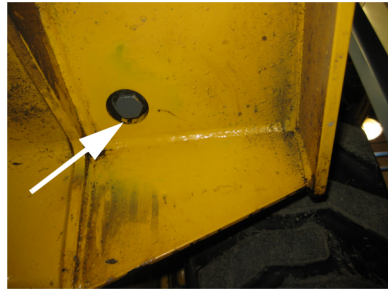

Figure 20 Hydraulic Oil Drain Plug
2. Open the reservoir drain plug, located on the inside bottom of the right riser (Figure 20).
2. Open the reservoir drain plug (Figure 20), and allow the oil to drain.